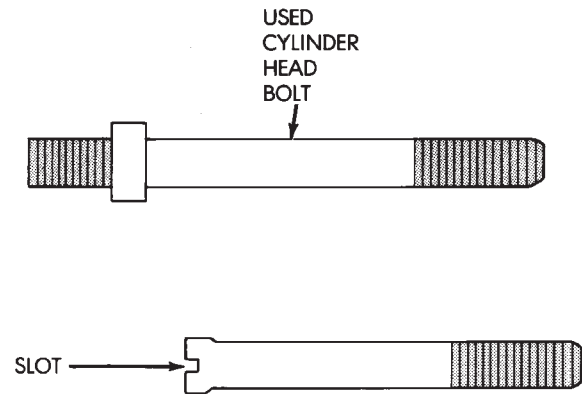

Fig. 36 Fabricate Alignment Dowels
(1) Fabricate two engine cylinder head alignment dowels from used head bolts (Fig. 36). Use the longest head bolt. Cut the head of the bolt off below the hex head. Then cut a slot in the top of the dowel to allow easier removal with a screwdriver.